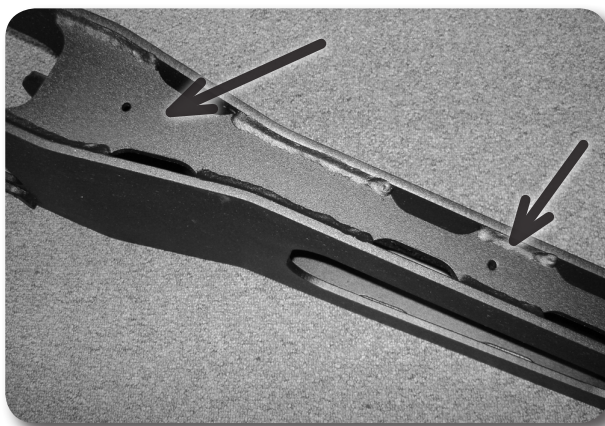

Figure 17
35. Attach the ABS wires to the new radius arms using the provided mountable zip ties installed into the small holes located in the top of the radius arms. **Figure 17** Tighten securely and cut off excess zip tie material.